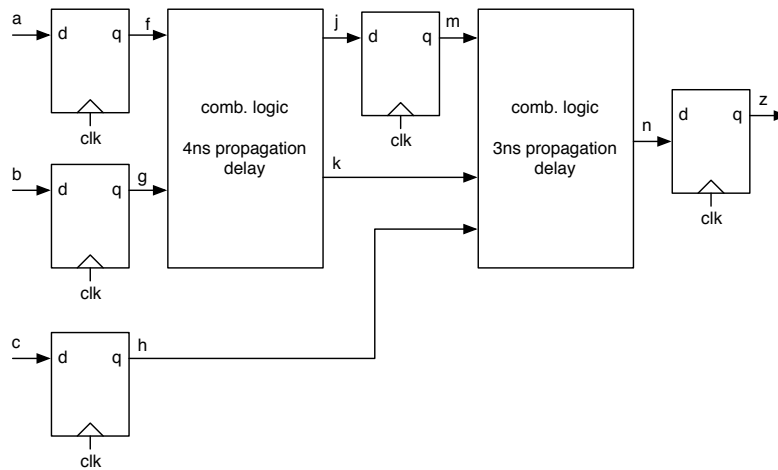

Figure 1. (Problem 1)
1. Consider the system shown in Figure 1. Assume each flip-flop has a 2ns propagation delay, a 2 ns setup time, and a 4 ns hold time. What is the shortest possible clock period? What is the fastest possible clock frequency? Explain your answers clearly.